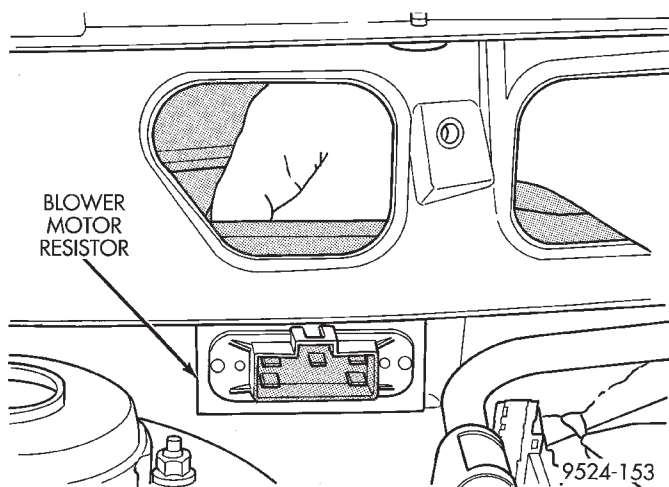

Fig. 19 Resistor Block Removal
- (1) Open hood.
- (2) Locate and remove the wire connector from the blower resistor block. Block is located at the back of the engine compartment on the passenger side of the vehicle under the wiper module (Fig. 19).